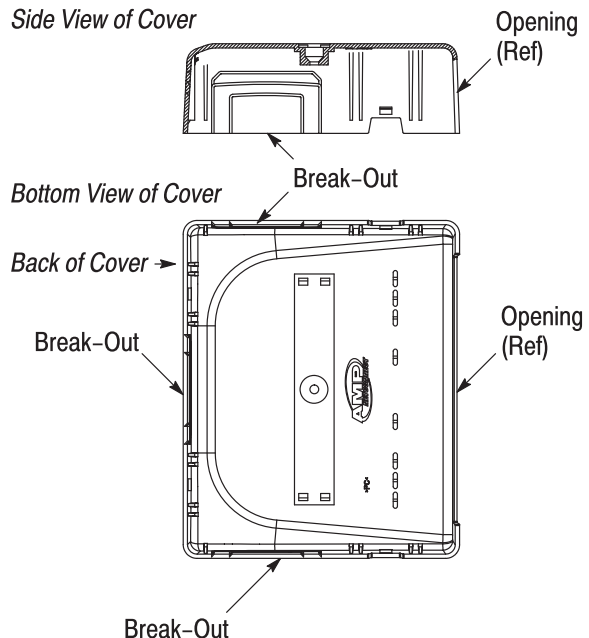

Figure 6
- a. Use a sharp instrument to scribe the appropriate break-out(s) of the cover, then remove the break-out(s). Refer to Figure 6.